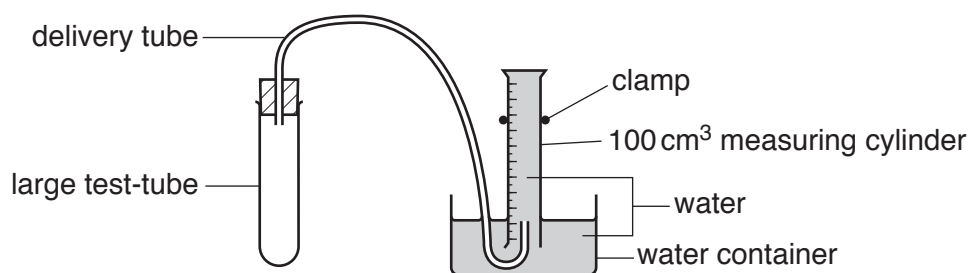

Fig. 2.1
- (v) 100 cm^3 measuring cylinder for use as in Fig. 2.1 (see note 1)
- (viii) delivery tube to fit large test-tube in (vi) with 50 cm of flexible tubing finishing in a small glass or rigid U-tube (see Fig. 2.1)